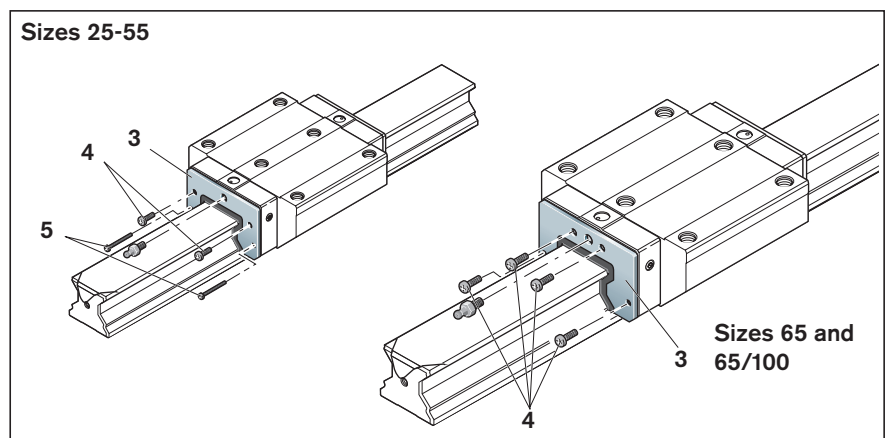

Fig. 48: Mounting the end seal
2. Mount the new end seal (3) with new screws (4) so that the sealing lips fit snugly all around the guide rail. ➡ ☒ Fig. 48.